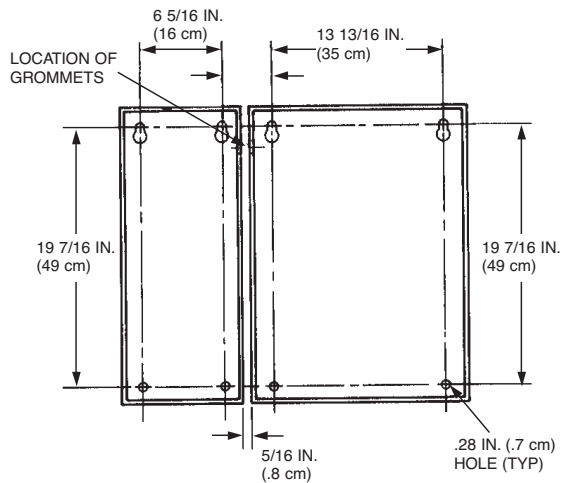

FIGURE 3
- When mounting a 6-gallon manifolded system (or a 6-gallon individual piped system) it is critical that each mounting box is located as shown in Figure 3. There must be a 5/16 in. space between each box. Less than 5/16 in. will cause interference with the covers, and more than a 5/16 in. will cause a gap between the two hose grommets which will expose the hose to possible tampering or damage.